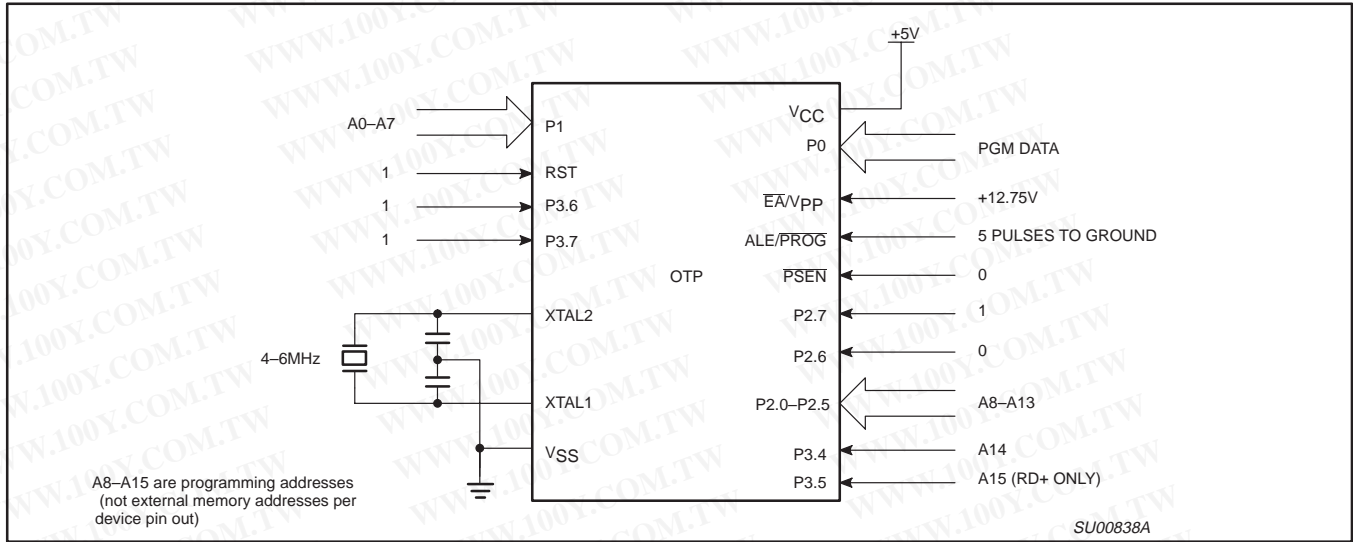
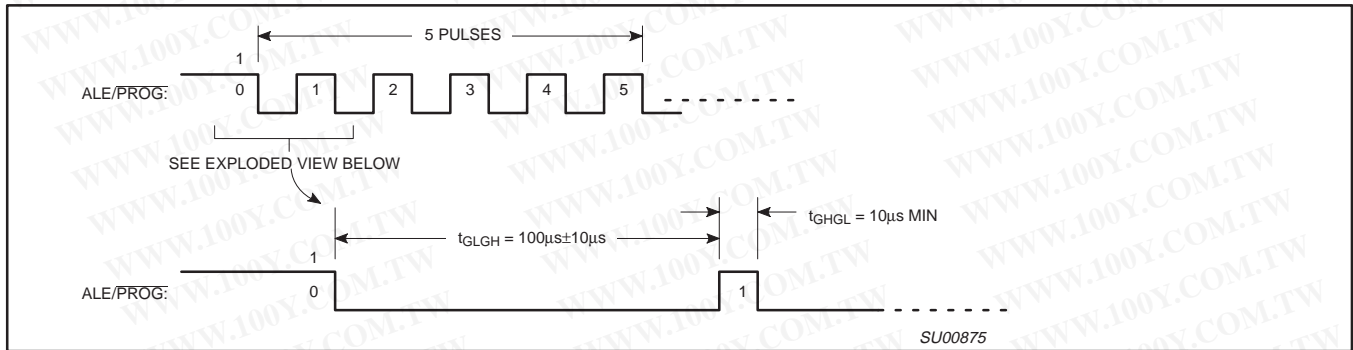
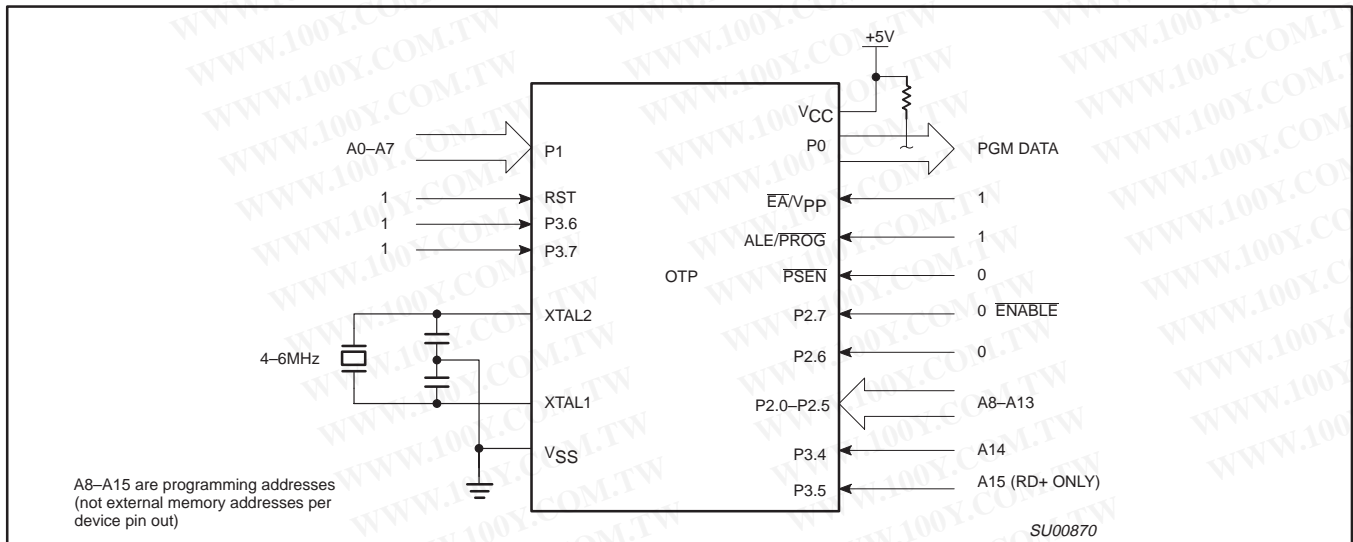

Figure 41. Programming Configuration
Figure 42. PROG Waveform
Figure 43. Program Verification
Table 9 shows the logic levels for reading the signature byte, and for programming the program memory, the encryption table, and the security bits. The circuit configuration and waveforms for quick-pulse programming are shown in Figures 41 and 42. Figure 43 shows the circuit configuration for normal program memory verification.
The setup for microcontroller quick-pulse programming is shown in Figure 41. Note that the device is running with a 4 to 6MHz oscillator. The reason the oscillator needs to be running is that the device is executing internal address and program data transfers.
The address of the EPROM location to be programmed is applied to ports 1 and 2, as shown in Figure 41. The code byte to be programmed into that location is applied to port 0. RST, \overline{PSEN} and pins of ports 2 and 3 specified in Table 9 are held at the 'Program Code Data' levels indicated in Table 9. The ALE/PROG is pulsed low 5 times as shown in Figure 42.
address of the program memory locations to be read is applied to ports 1 and 2 as shown in Figure 43. The other pins are held at the 'Verify Code Data' levels indicated in Table 9. The contents of the address location will be emitted on port 0. External pull-ups are required on port 0 for this operation.
- * FOR PROGRAMMING CONFIGURATION SEE FIGURE 41.
FOR VERIFICATION CONDITIONS SEE FIGURE 43.